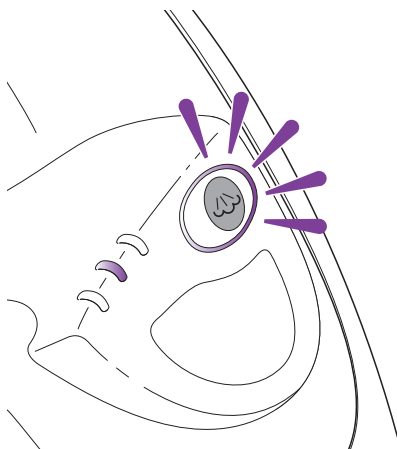

fig. 8
- 2 The **ON/STANDBY** button will flash blue. If the light does not turn on, reference the troubleshooting section on page 16. (**fig. 8**)